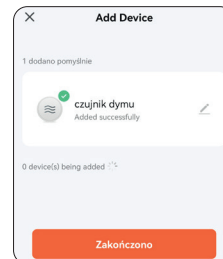

Fig. 9
- After a few tens of seconds, the detector should be added, which is confirmed by a message as shown in Fig. 9.